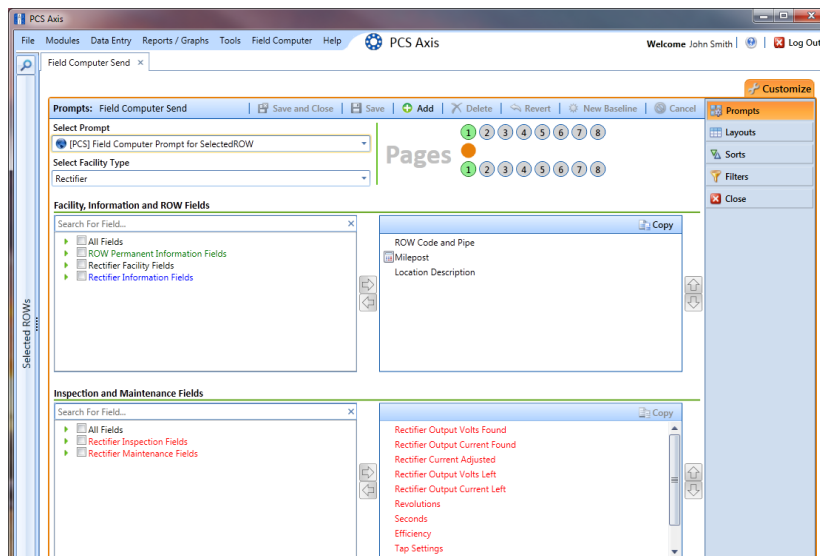

Figure 13-31. Prompts
- 3 Click the **Customize** tab , then the **Prompts** button  to open the *Prompts* page (Figure 13-31).
- 3 Click the **Customize** tab  then the **Prompts** button  to open the *Prompts* page (Figure 13-31, page 627).